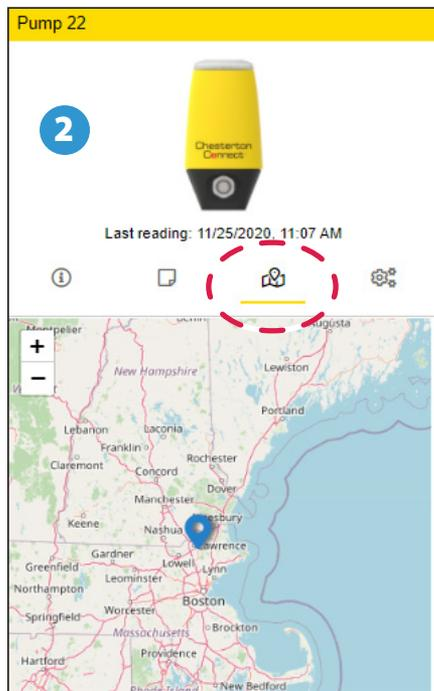

Figure 8
**2 Location** dialog allows users to view their sensors on an interactive map (see figure 8).